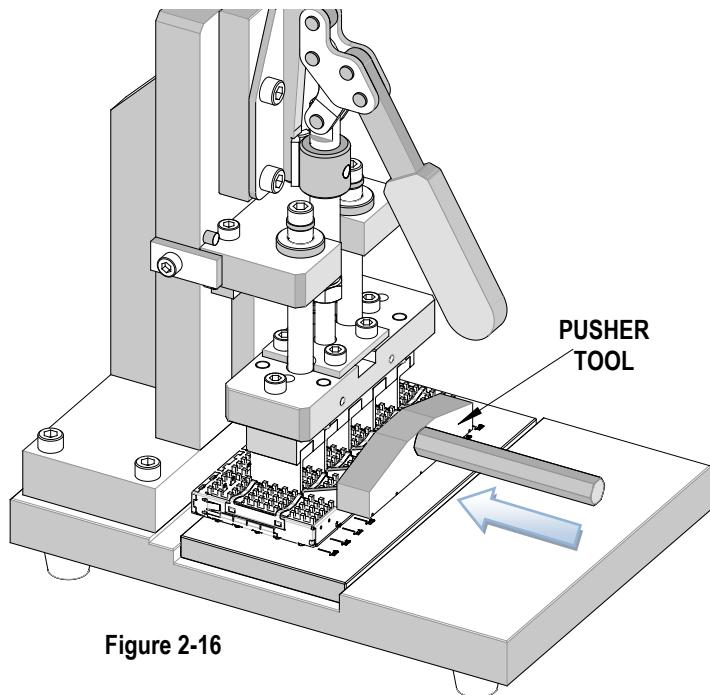

Figure 2-16
3. Use the correct Hand Hooking Push Tool to push the heat sink clip forward under the hooks on the top inner walls of the cage to lock in place. See Figure 2-16 and 2-17.
5. Heat slip clip must snap securely onto all four (4) tabs on both side of cage.